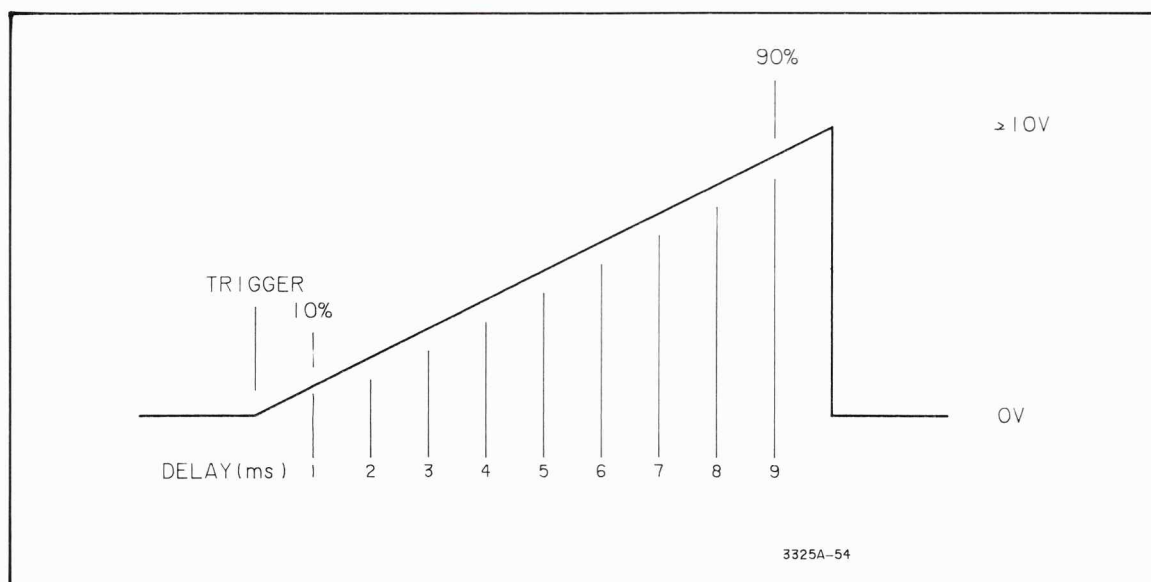

Figure 4-13. X Drive Linearity Test.
e. Set the digital voltmeter delay to .001 (seconds). Adjust the dc power supply for a digital voltmeter reading of -1.600 V. Record the digital voltmeter reading on the Performance Test Record under "X Drive Ramp Measurement, (10%), y_1 ." This is the 10% point on the X Drive ramp. See Figure 4-13.